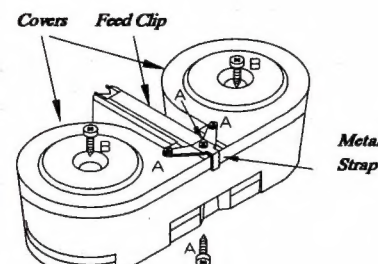

Figure 1.1
REMOVE the four (4) screws labeled "A" in Figure 1.1.
REASSEMBLE back cover set to the drum assembly using the screws labeled "B" in Figure 1.1. Tighten moderately with a screwdriver or C-MAG screwdriver tool (Part No. XXXSD1).
REATTACH feed clip and metal strap to drum assembly (Figure 1.1, use screws "A"). Tighten screws and test security of the feed clip attachment.